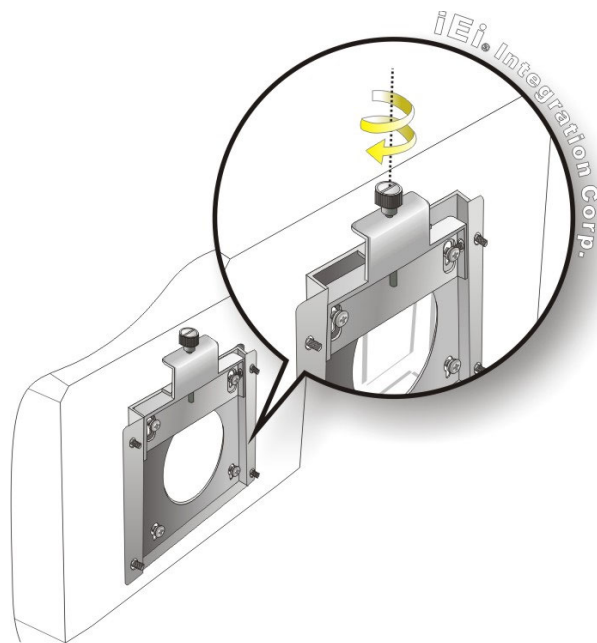

Figure 3-15: Secure the Panel PC
Step 9: Secure the panel PC by fastening the retention screw of the wall-mounting bracket (Figure 3-15).